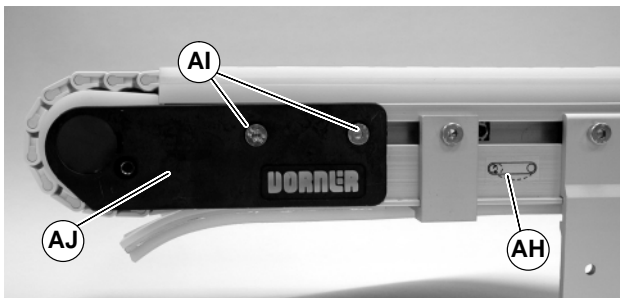

Figure 16
1. On idler end of the conveyor identified with a  label (AH of figure 16), loosen fastening screws (AI of figure 16) on both sides of conveyor. Push head plate assembly (AJ) inward.